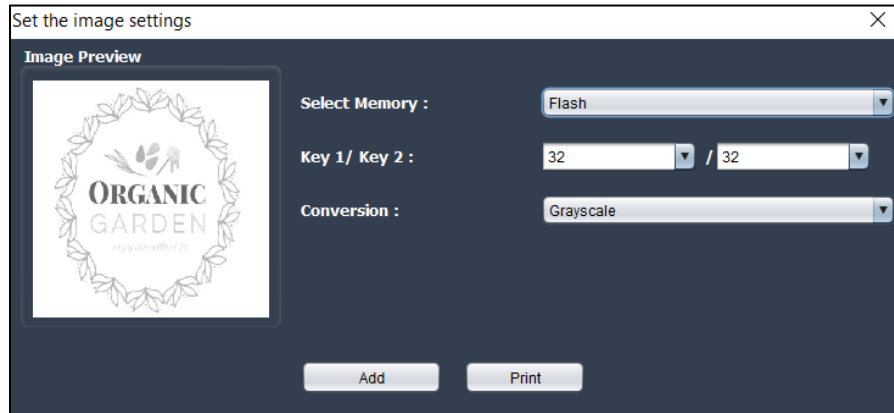

Figure 35 Logo Download's Image Setting Dialog
- Loading image using this method, will not trigger the Image setting dialog to be opened. Please refer to Figure 35 Logo Download's Image Setting Dialog. The images however, are still able to be edited once they are loaded.